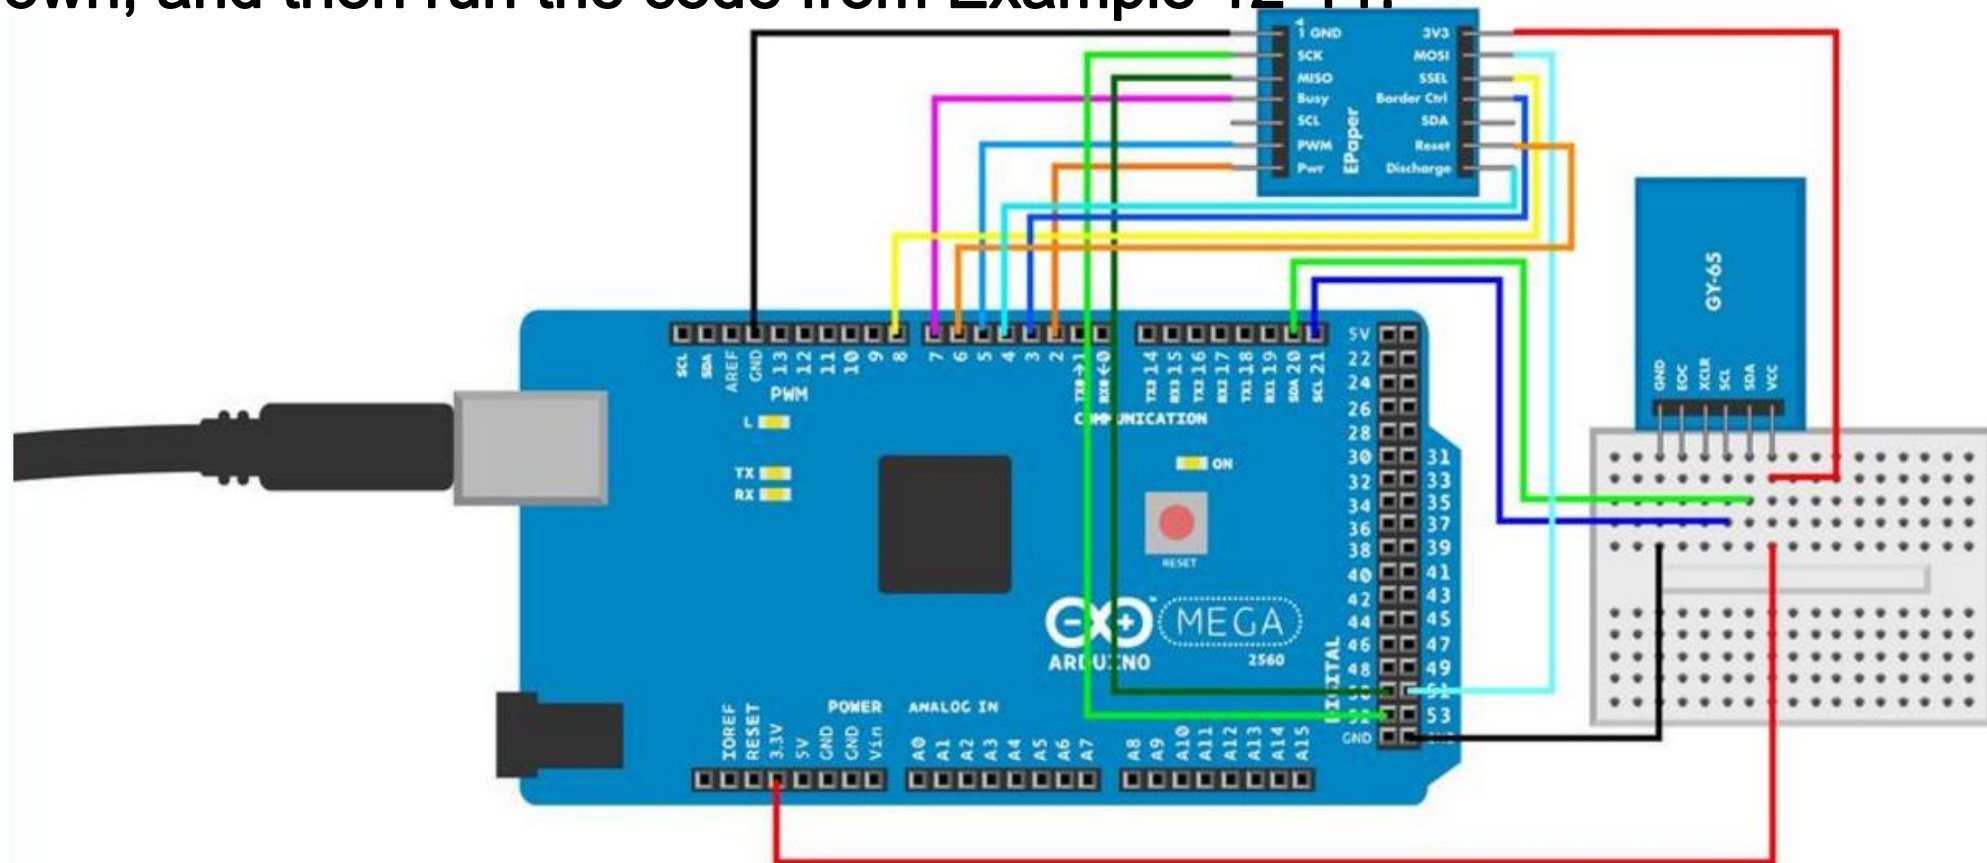

Figure 12-17. Connections on Arduino Mega
- Figure 12-17 shows the connections for the Arduino Mega. Wire it up as shown, and then run the code from Example 12-11.